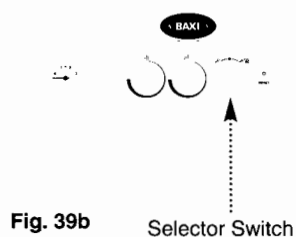

Fig. 39b
3. Set the selector switch to the hot water and heating position (Fig. 39b) and ensure that all external controls are calling for heat. Set the heating temperature adjustment knob to maximum.